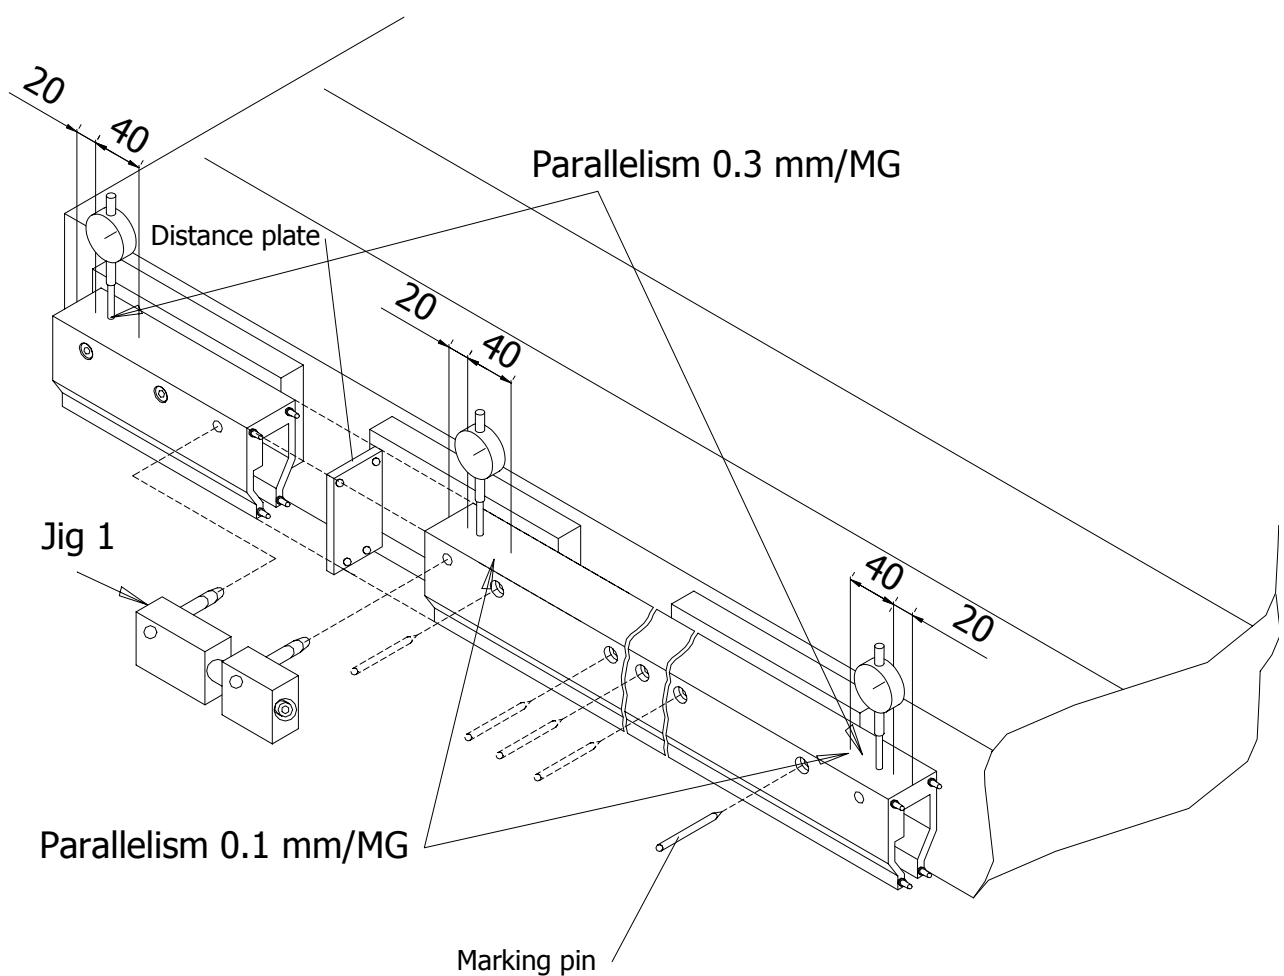

Fig. 2-6
- Jig 1; for mounting Profile segments with junction seal (Refer to Fig. 2-6 and 2-7)
- Distance plate 4mm; for positioning Profile segments (Refer to Fig. 2-6)
- Marking pin $\Phi 6$; for marking the position of thread holes M5 on the machine (Refer to Fig. 2-6)